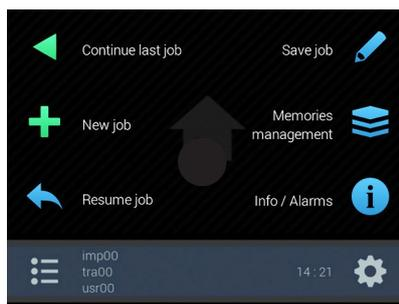

Fig. 248
- Switch the monitor on (par 1.2). After self-diagnosis, the monitor displays screen "Home" (Fig. 248).